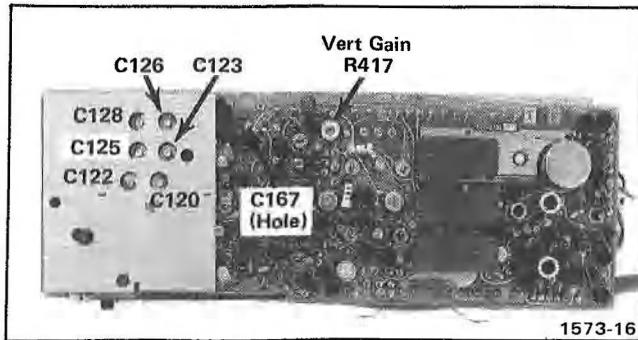
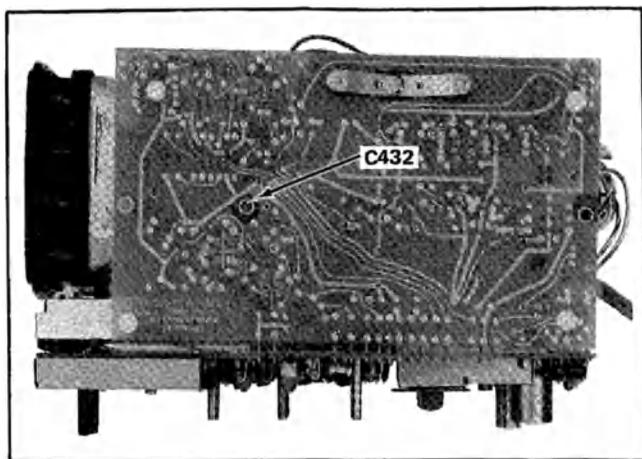

Fig. 5-6. Location of attenuator compensation and Vertical Gain adjustments.
Fig. 5-7. Location of Bandwidth response adjustment.
- a. Set the VOLTS/DIV switch to .2 and, set the SEC/DIV switch to .1 m. See Fig. 5-6 for location of attenuator adjustments.
- g. Adjust R417 for a display of four divisions within 2%. See Fig. 5-6.
g. Adjust C432 (Bandwidth response) for the fastest rise time. See Fig. 5-7.
i. Adjust C167 for a flat top with minimum aberrations (a slight readjustment of the C432 might be necessary for a flat top with no overshoot). See Fig. 5-6 and Fig. 5-7.